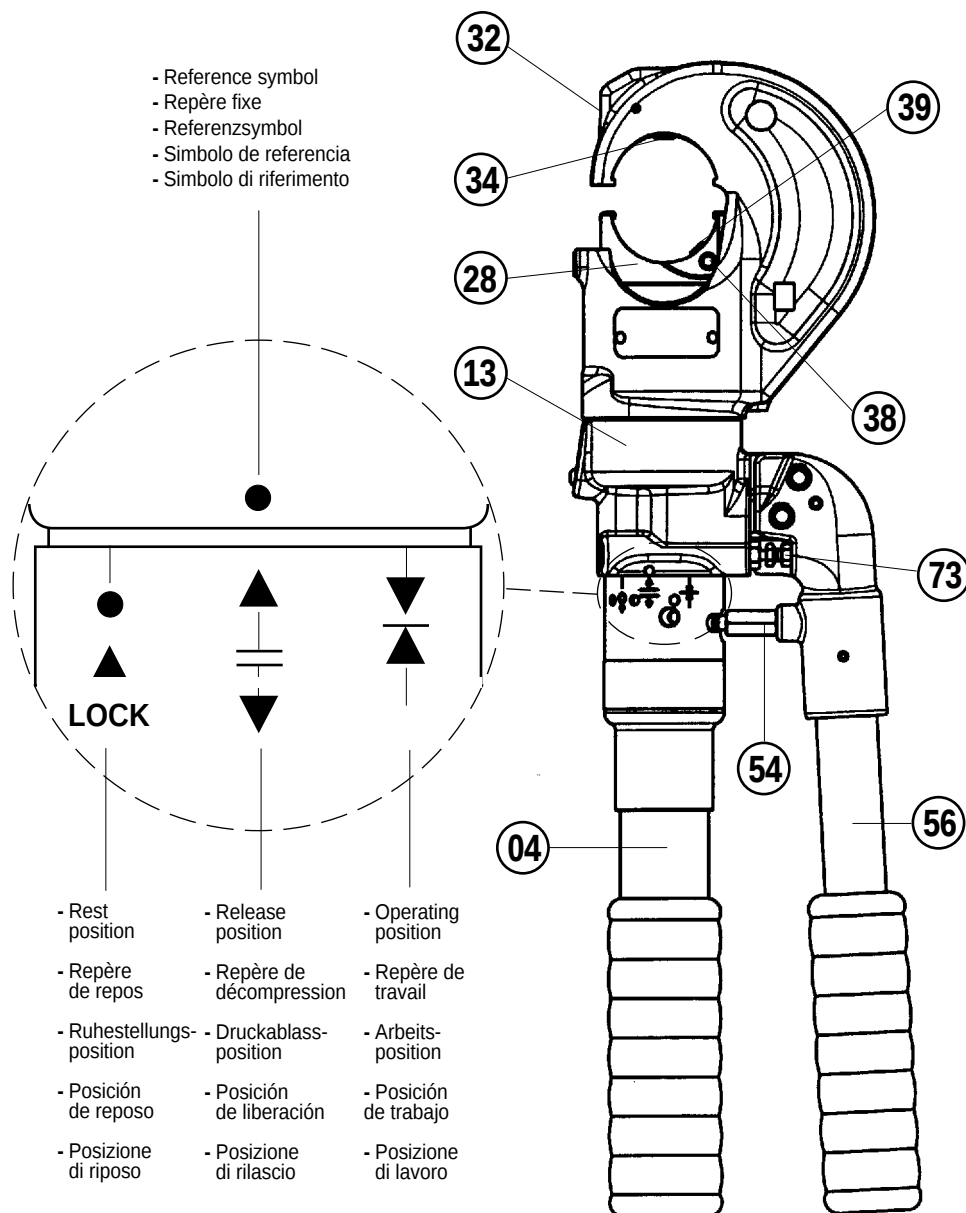

FIG. 1 OVERALL VIEW
- **Operating positions.** The three operating positions are identified on the main handle, which rotates relative to the reference symbol,  (see Fig. 1).
2. INSTRUCTIONS FOR USE (Ref. to Fig. 1 and 2)